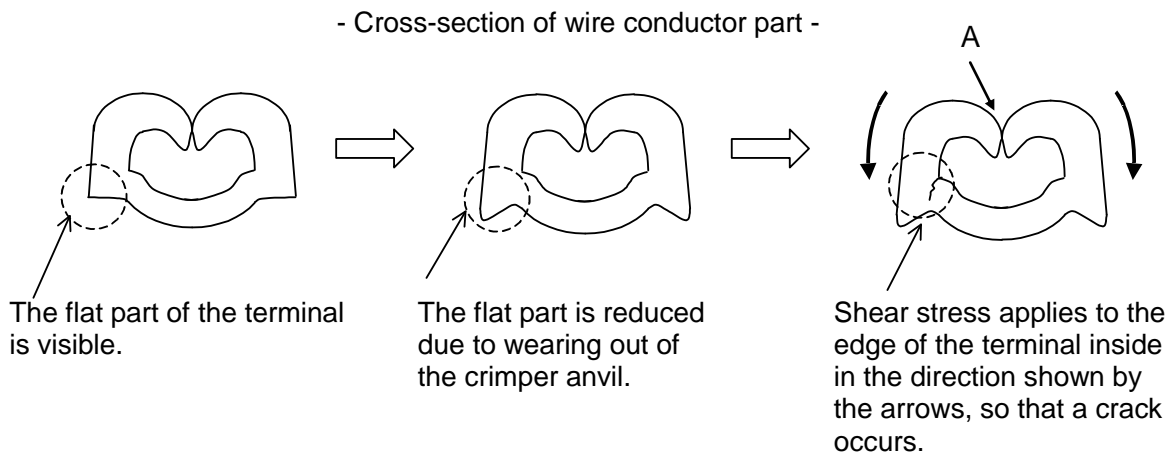

Fig. 13
- When the seam of the crimped part opens. (See Point A in Figure 13.)